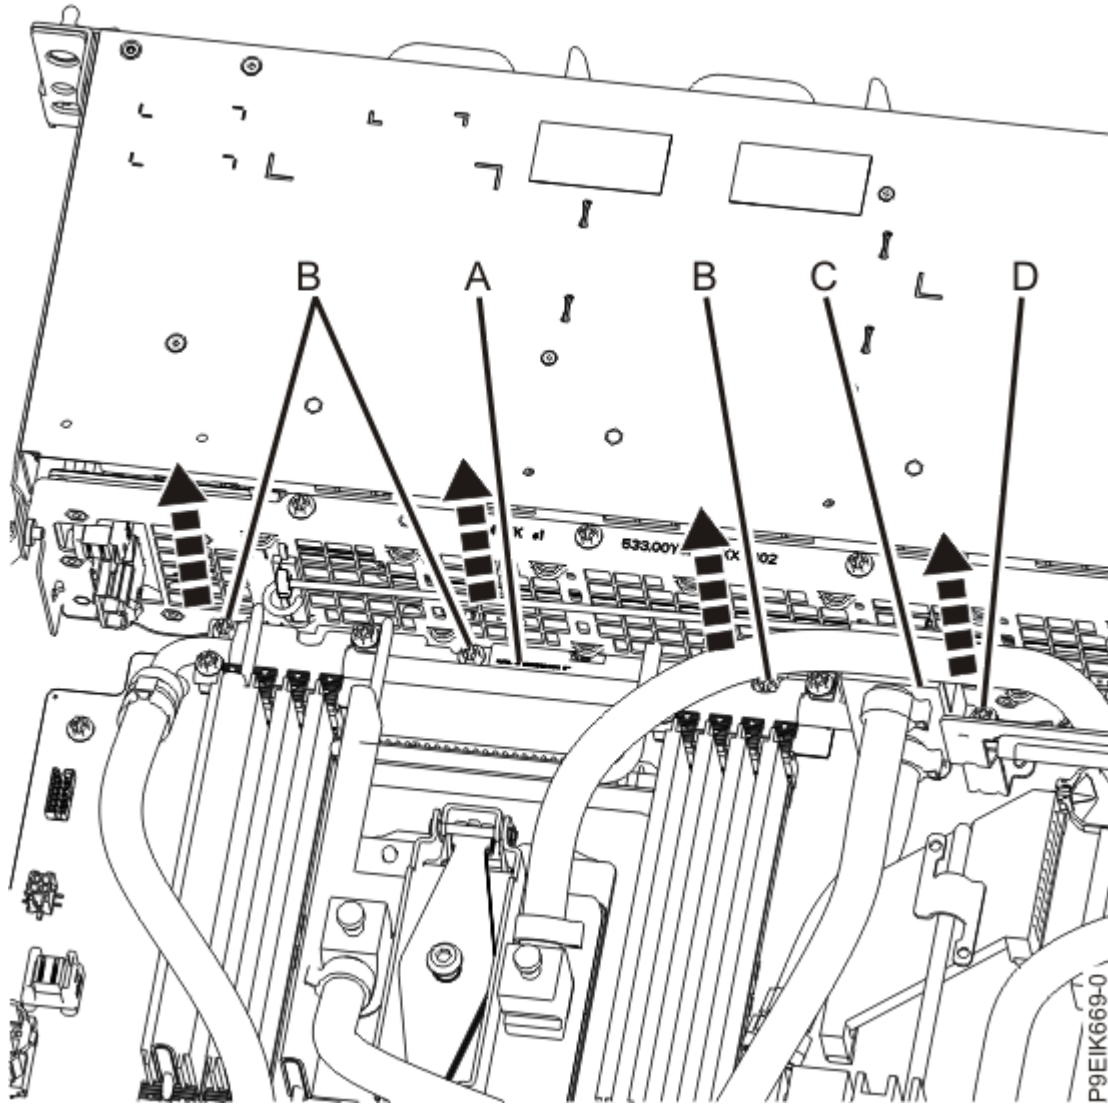

Figure 66. Removing the front pipe holder
6. From the pipe bracket **(A)** near the front of the system as shown in Figure 66 on page 71, remove the three screws **(B)** that secure the bracket to the system.
7. From the water pipe at position **(C)**, loosen the screw **(D)** as shown in Figure 66 on page 71.